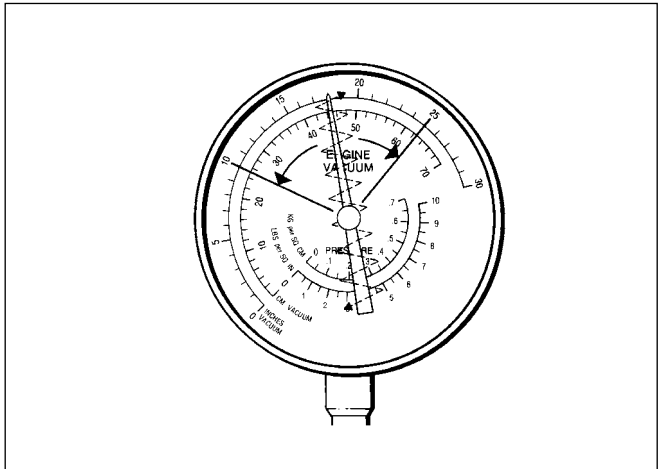

Fig. 1-9. Leaking head gasket. Vibrating needle floating low to high.
- A leaking head gasket will cause the needle to vibrate as it floats through a range from slightly below to slightly above normal, figure 1-9